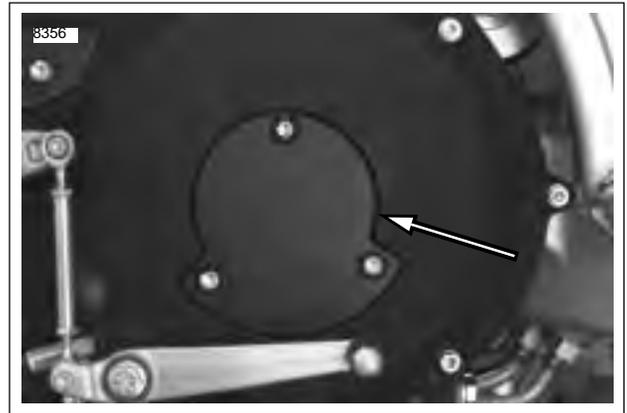
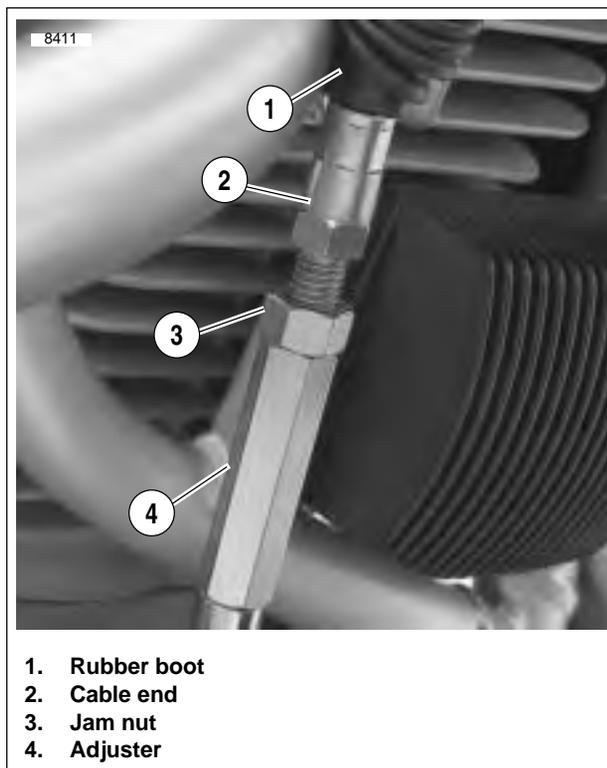

Figure 1-19. Clutch Inspection Cover
Figure 1-22. Clutch Cable Adjuster Mechanism
7. See Figure 1-19. Install clutch inspection cover tightening three fasteners and washers to 84-108 **in-lbs** (10-12 Nm).
2. See Figure 1-22. Slide rubber boot (1) upward to expose adjuster mechanism. Loosen jam nut (3) from adjuster (4). Turn adjuster to shorten cable housing until there is a large amount of free play at clutch hand lever.
3. See Figure 1-19. Remove three fasteners and washers from clutch inspection cover. Remove clutch inspection cover and gasket from primary cover.
- b. See Figure 1-22. Set free play by turning adjuster (4).
- c. Tighten jam nut (3) against adjuster (4).
- d. Slide boot (1) over cable adjuster mechanism.
8. See Figure 1-19. Install clutch inspection cover and **new** gasket using three fasteners and washers and tighten to 84-108 **in-lbs** (10-12 Nm).